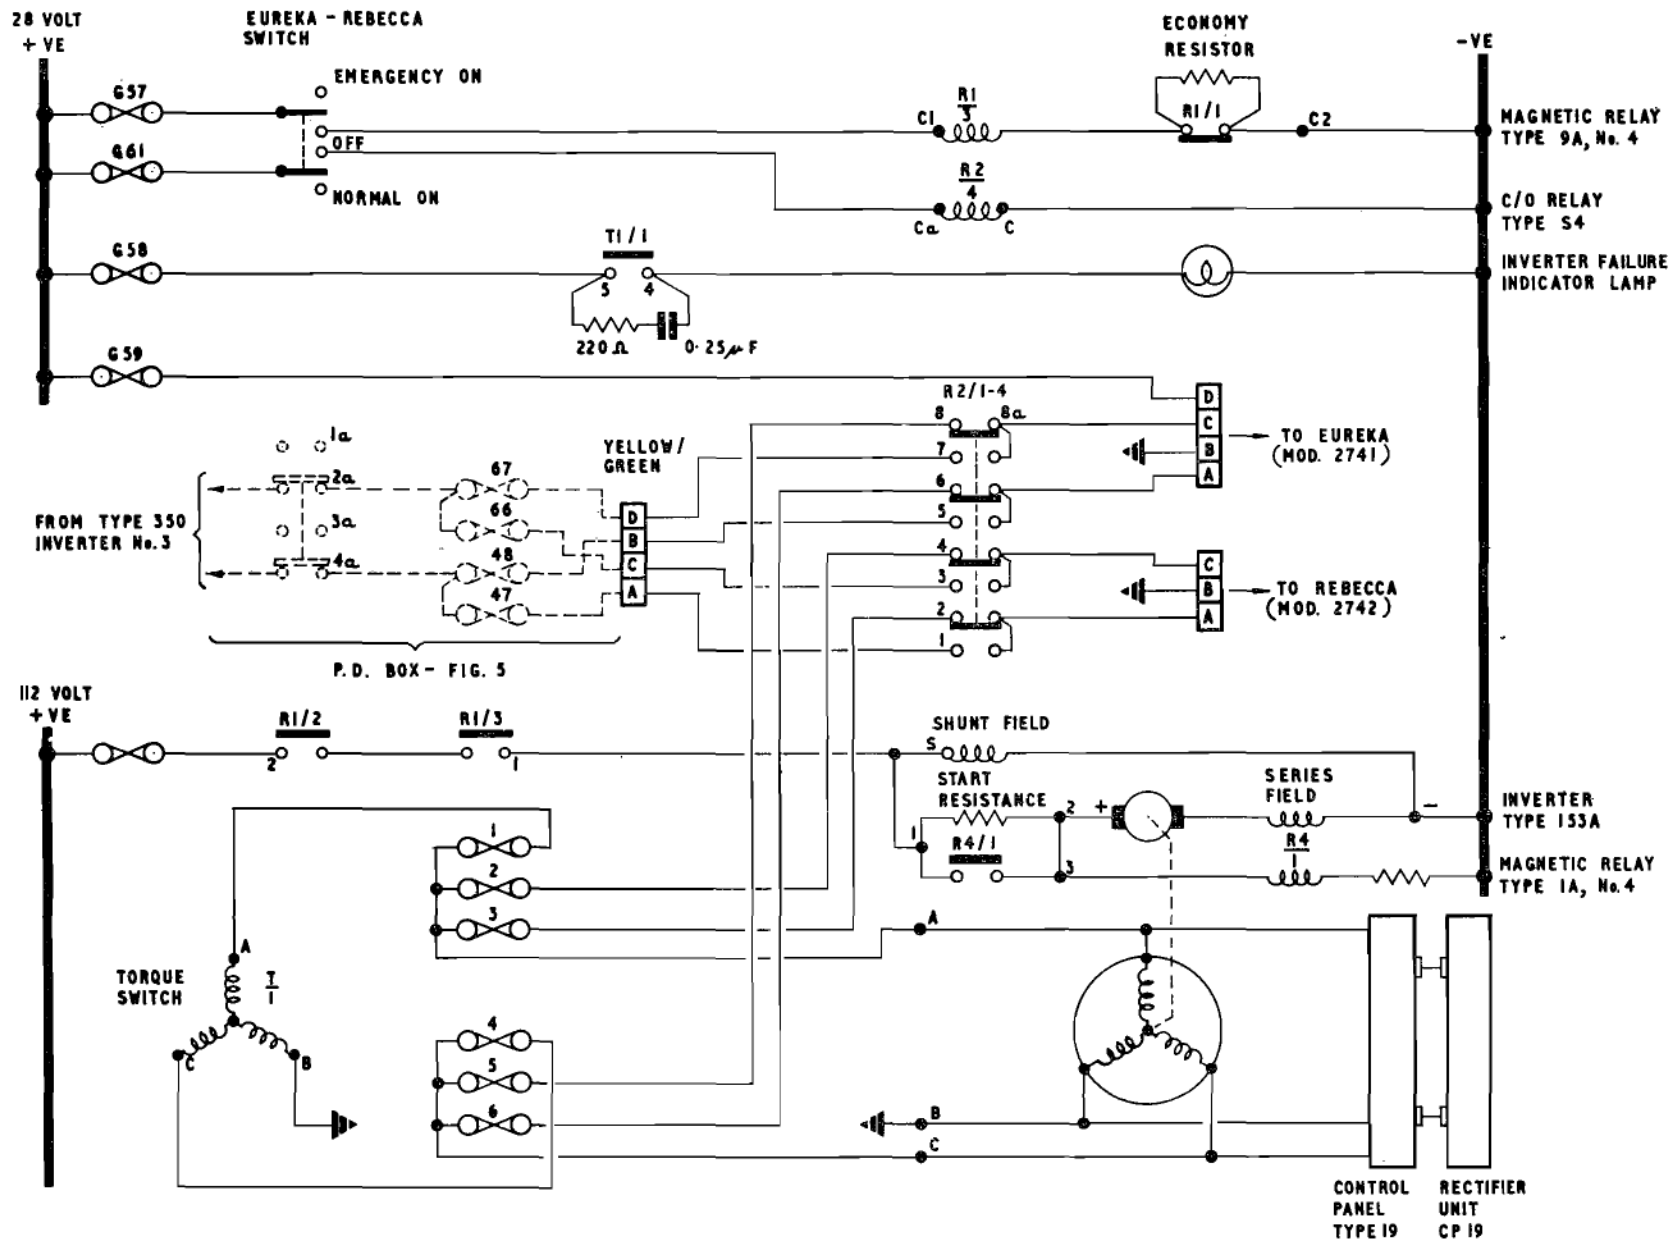

Fig. 9A. A.R.I.5922 and A.R.I.5924 inverter, Type 153A
A.R.I.5922 and A.R.I.5924 supplies (Mod. 2796) (fig. 9A)